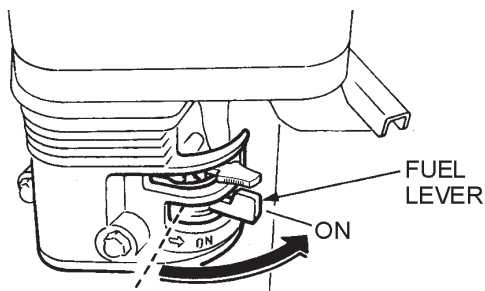

Figure 10. Engine Fuel Valve Lever (ON Position)
1. Place the engine *fuel valve lever* (Figure 10) to the **ON** position.
6. Place the **fuel valve lever** (Figure 10) in the **OFF** position.